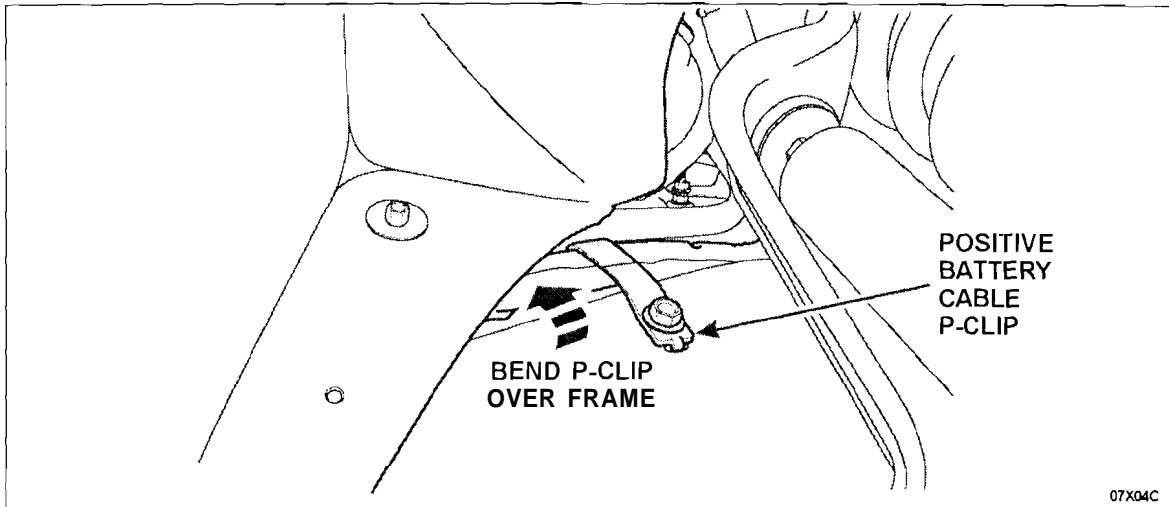

FIGURE 2
3. If you are unable to fit your hand between the splash shield bolt and the positive battery cable (at least 15 mm [5/8 in]), bend the P-clip over the frame and recheck for clearance. See Figure 2.